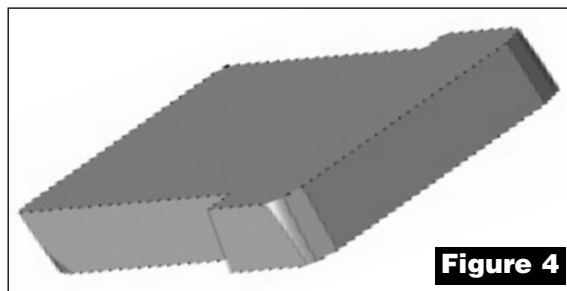

Figure 4
4. The strut is a piece of metal shaped like a fat "T" (see *Figure 4*). Note that one end of the "T" is more rounded than the opposite end: the rounded end faces the inside of the cavity. The top of the "T" rests against the left sidewall of the upper level of the spring and strut cavity.